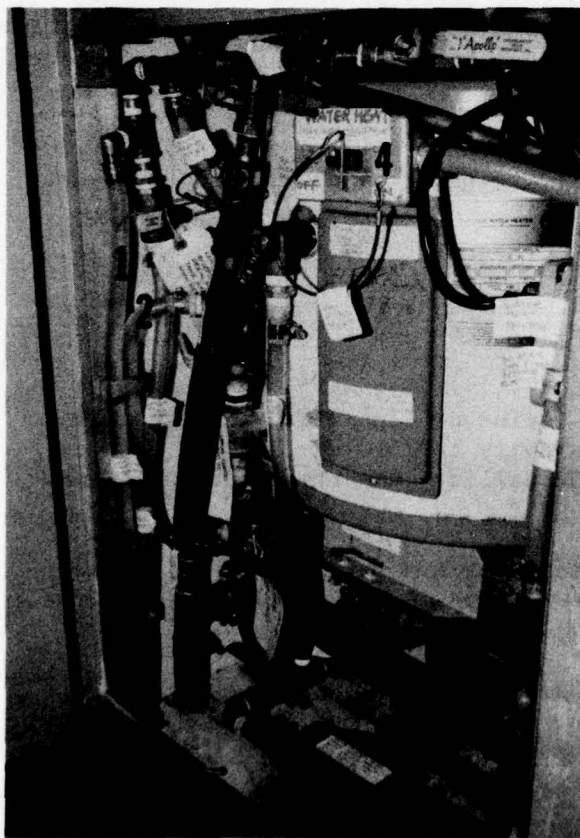
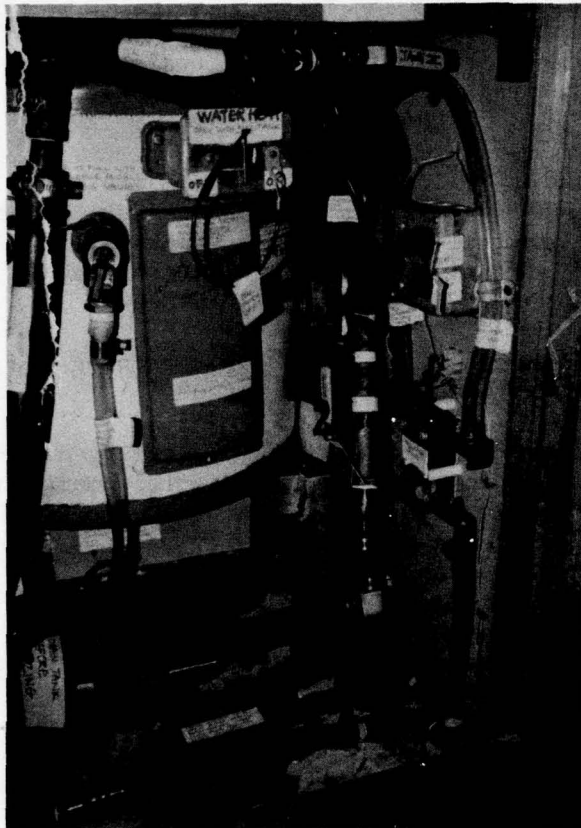

Figure 4.4.1. The demand side of the water compartment.
Figure 4.4.2. The input side of the water compartment.
First place the water in the snowmelt/hold tank (Fig. 1.2.4, item 7). If the water is frozen, direct engine waste heat into the snowmelt tank with the diverter valve under the hot water tank (Figure 4.4.1, Item 5).
First, the engine must be warm to provide hot coolant for the heat exchanger in the compartment. Next, wet the bottom of the snowmelt tank with water from the gravity tank by opening the valve shown in Figure 4.4.1. Close the valve and turn the diverter valve labeled in Figure 4.4.2 to the shower position (left).
First the engine must be warm to provide hot coolant for the heat exchanger in the compartment. Next, wet the bottom of the snowmelt tank with water from the gravity tank by opening the valve shown in Figure 4.4.1. Close the valve and turn the diverter valve labeled in Figure 4.4.2 to the shower position.
To transfer water from the snowmelt/holding tank into the gravity tank at the top of the utility compartment, follow the checklist in Appendix X. Make sure the diverter valve is in the correct position (right, Fig. 4.4.2).
Fill the water heater completely before turning the heating element on. Open the safety valve until water flows steadily. Turn on the switch mounted at the top of the tank (Figure 4.4.1, Item 4) for electric water heating. To use the tank's heat exchanger, turn the valve handle shown in Figure 4.4.2 (Item 2) parallel to the pipe and turn the diverter valve under the heater (Figure 4.4.1, Item 5) to the right.